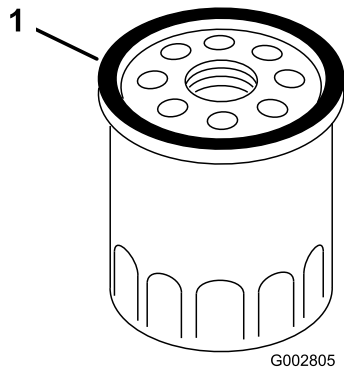

Figure 25
- Use your finger to coat the gasket on the new filter with oil (Figure 25).